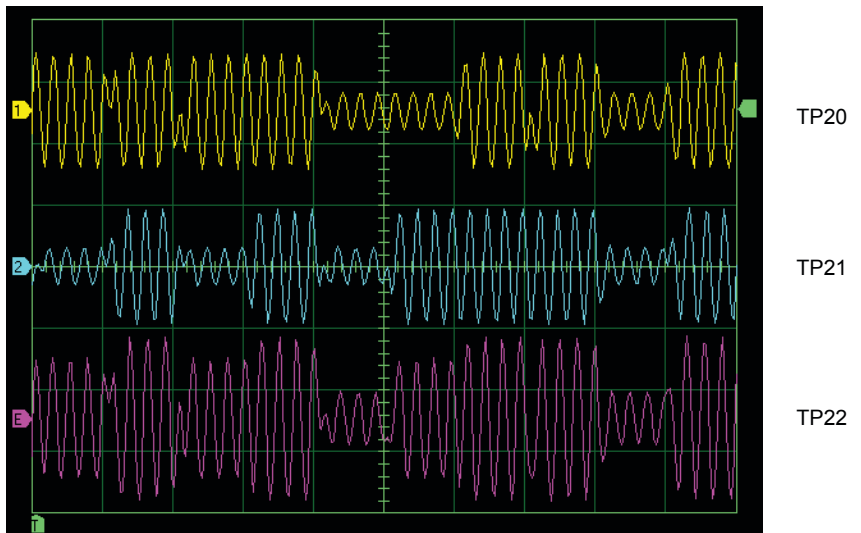

Figure 21. Summer input and output (QAM) signals.
- Use the Oscilloscope to observe the signals at the input and output of the summer (TP20, TP21, and TP22). Figure 21 shows an example.